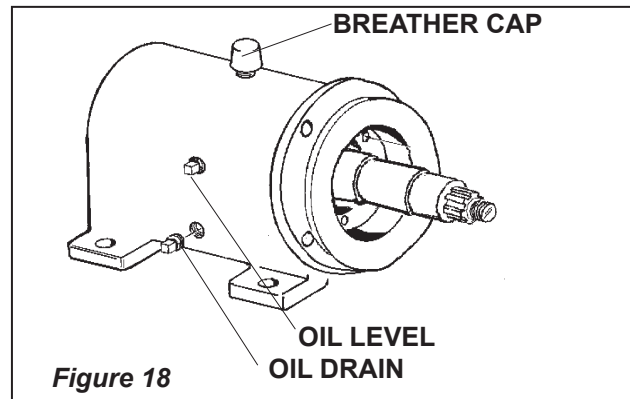

Figure 18
7. **Drain oil from gear case.** (Figure 18)